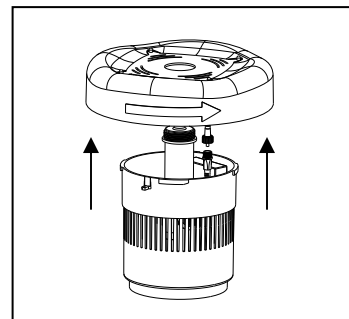

Fig. 9
5. Twist the top section counterclockwise. Then pull the top section from the lower. Unscrew the wire connector that connects the top section to the rest of the unit. Fig. 9